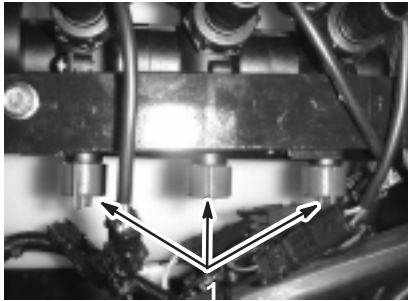

Figure 26
- Adjust the boom bypass valve (Fig. 26) under the boom control valve for the boom you turned off until the pressure reading on the gauge is the same as it was in step 9.